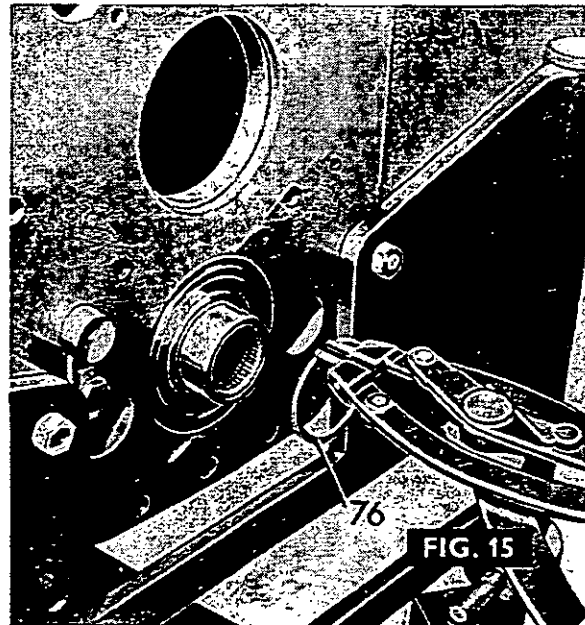
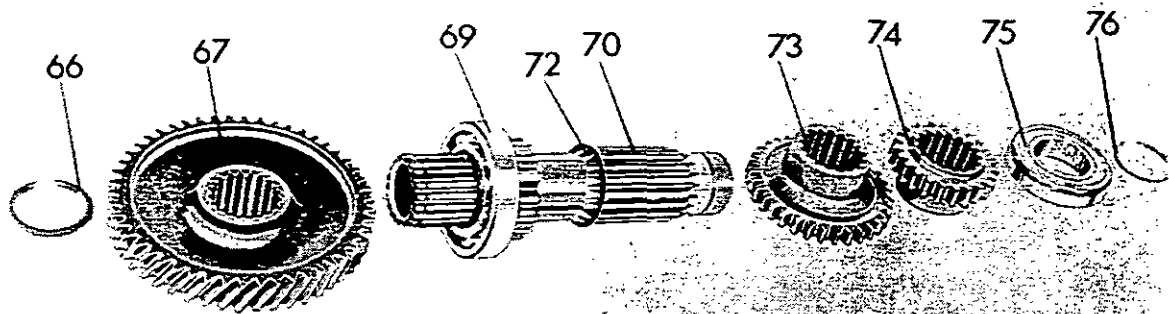

FIG. 15
FIG. 16
2. Figure 15. Remove the snap ring (76) from the rear of the layshaft.
3. Figure 16. Tap the layshaft forwards to expose the snap ring (72), forward of the third gear pinion (73). Move the snap ring (72) forwards on to the unsplined portion of the layshaft.
4. Remove the snap ring (66) from the front of the layshaft, then tap the layshaft backwards until the constant mesh gear (67) can be removed.
6. Using the hand press MF 200 and the adaptor MF 200-25, press the centre bearing (69) from the layshaft (70).
1. Fig 16. Press the layshaft centre bearing (69) on to the layshaft (70) using MF200 and MF200-25.
2. Refit the snap ring (72) on to the layshaft (70) placing it temporarily on the unsplined portion of the shaft to the rear of the first gear teeth.
3. Feed the layshaft into the transmission case, from the front, progressively fitting the third gear pinion (74) and the second gear pinion (74). Push the layshaft rearwards to permit fitment of the constant mesh gear (67).
4. Refit the snap ring (66) to secure the constant mesh gear (67) and the bearing (69).
5. Tap the layshaft forwards slightly to allow the snap ring (72) to be fitted to its groove adjacent to the third gear pinion (73).
6. Fig 15. Carefully drive the layshaft rearwards and fit the rear snap ring (76).
27. Figure 15. Remove the snap ring (76) from the rear of the layshaft.
28. Figure 16. Tap the layshaft forwards to expose the snap ring (72), forward of the third gear pinion (73). Move the snap ring (72) forwards on to the unsplined portion of the layshaft.
29. Remove the snap ring (66) from the front of the layshaft, then tap the layshaft backwards until the constant mesh gear (67) can be removed.
31. Using the hand press MF 200 and the adapter MF 200-25, press the centre bearing (69) from the layshaft (70).
5. Fig 16. Press the layshaft centre bearing (69) on to the layshaft (70) using MF200 and MF200-25.
6. Refit the snap ring (72) on to the layshaft (70) placing it temporarily on the unsplined portion of the shaft to the rear of the first gear teeth.
7. Feed the layshaft into the transmission case, from the front, progressively fitting the third gear pinion (73) and the second gear pinion (74). Push the layshaft rearwards to permit fitment of the constant mesh gear (67).
8. Refit the snap ring (66) to secure the constant, mesh gear (67) and the bearing (69).
9. Tap the layshaft forwards slightly to allow the snap ring (72) to be fitted to its groove adjacent to the gear pinion (73).
10. Fig 15. Carefully drive the layshaft rearwards and fit the rear snap ring (76).